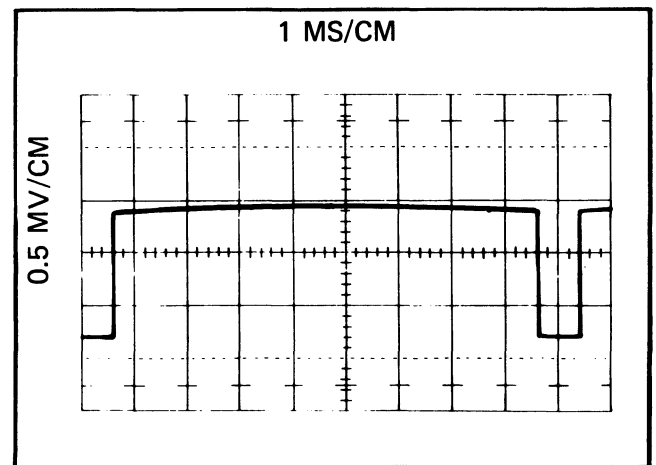

Figure 4-7. PRE-REGULATOR Q1, WAVEFORM ON OPR
- f. Set the POWER switch to OPR. The oscilloscope waveform should appear as shown in Figure 4-7.